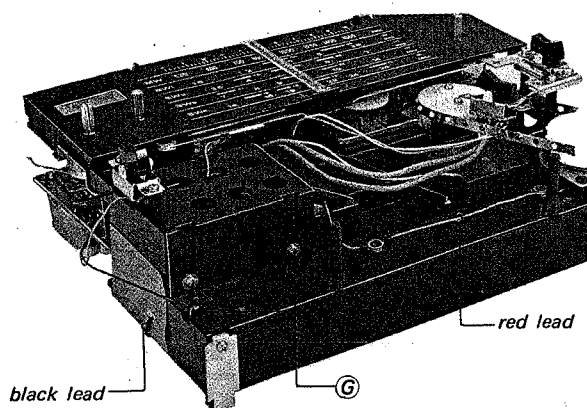

Fig. 2-10 Power circuit board removal, steps 2 and 3
2. Unsolder a black lead and a red lead as shown in Fig. 2-10.
3. Remove the two screws labeled ③ in Fig. 2-10.